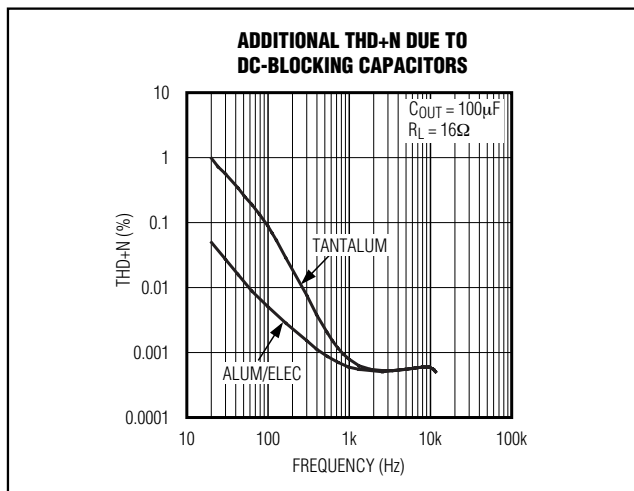

Figure 3. Distortion Contributed by DC-Blocking Capacitors
- The voltage coefficient of the capacitor, the change in capacitance due to a change in the voltage across the capacitor, distorts the audio signal. At frequencies around the -3dB point, this effect is maximized and the voltage coefficient appears as frequency-dependent distortion. Figure 3 shows the THD+N introduced by two different capacitor dielectrics. Note that around the -3dB point, THD+N increases dramatically.